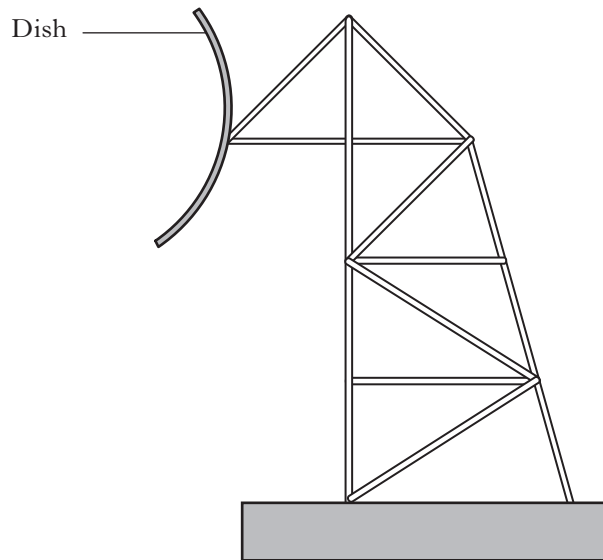

Figure Q11(a)
11. A radio-receiver dish mounted on a tower, as shown in Figure Q11(a), monitors the airwaves for a distress signal, which consists of the three letters “S O S”. A microcontroller is used to process the received signals.